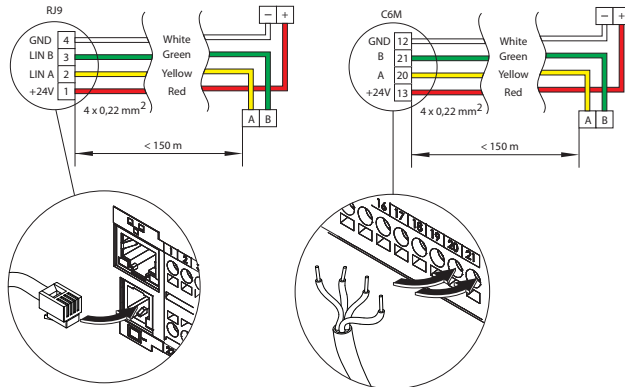

Fig. 17. Control panel cable wiring diagram
- DX (15–16)** – control signal for external direct expansion (DX) cooler/heater.
- Control panel (see. Fig. 17)